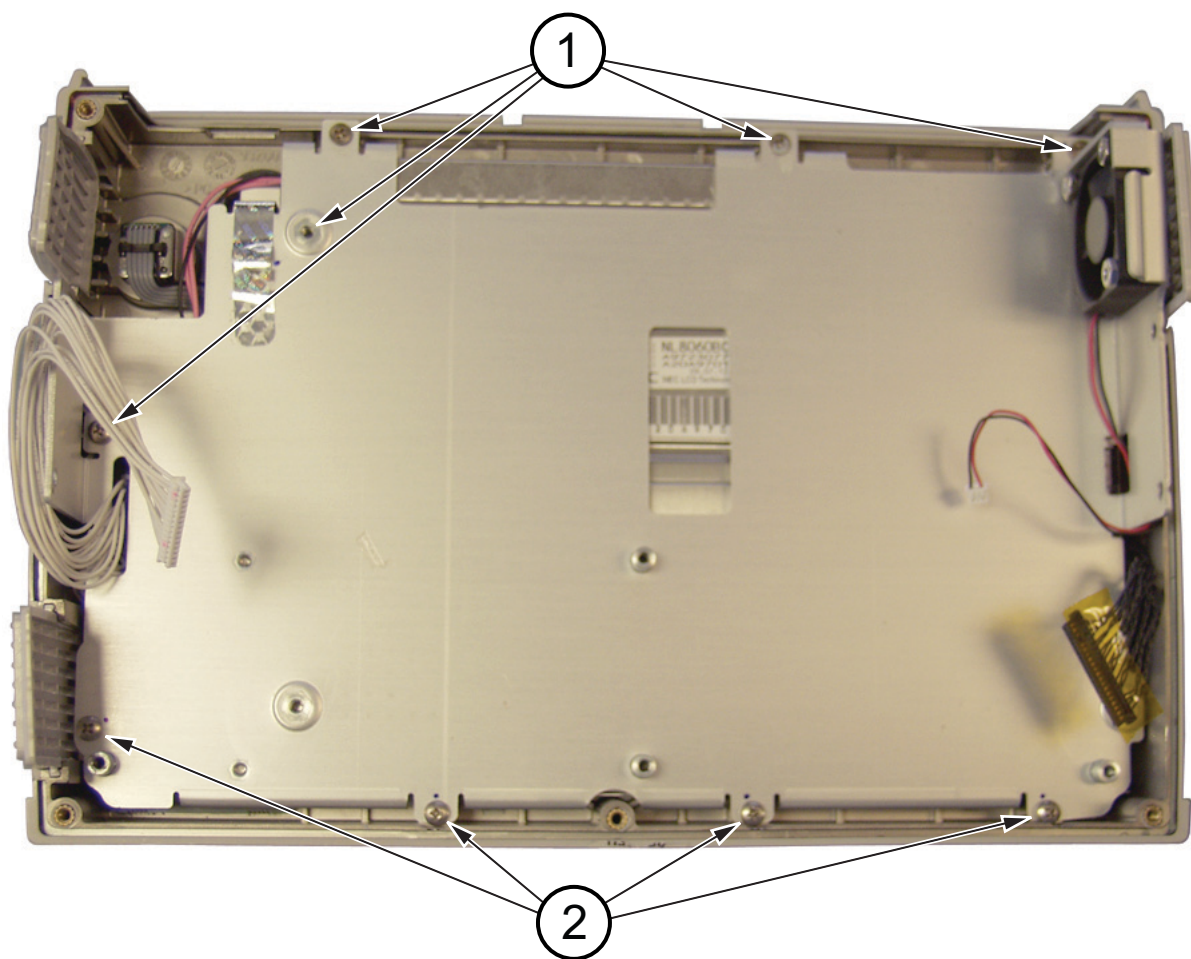

Figure 6-23. Nine Screws Secure Metal Pan Over LCD Display
3. Remove the 9 screws securing the metal pan (part of LCD Assembly) to the front half of the case. The 5 screws noted by number 1 in Figure 6-23 are flathead screws. The 4 screws noted by number 2 in Figure 6-23 are pan head screws.